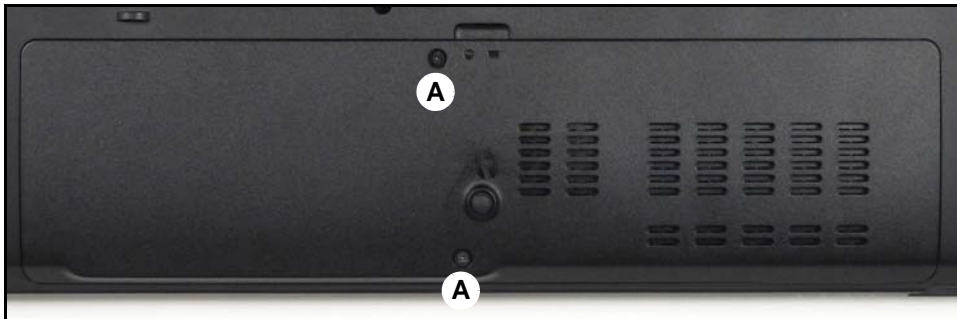

Figure 3-10. Lower Cover Door Screws
2. Remove two (2) screws (A) as shown in Figure 3-10
2. Secure door to lower cover with two (2) screws (A) (Figure 3-10).